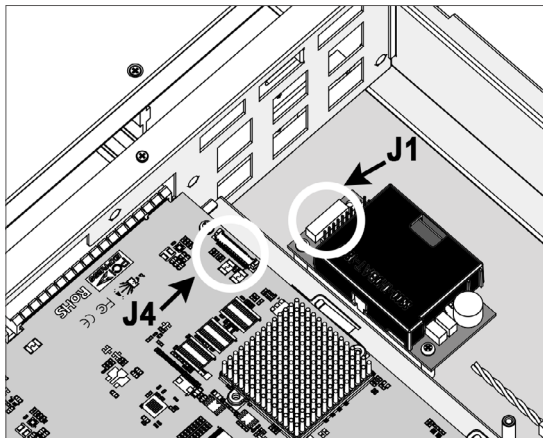

Figure C-4, Insert the cable connector into J1 & J4
3. Insert the cable connector into the **J1** (12-pin box header battery connector on ARC-6120-BAT121-7 module), and also insert another side of the cable connector into the **J4** (14-pin box header battery connector on ARC-8050T3-12R backplane), as shown in Figure C-4.